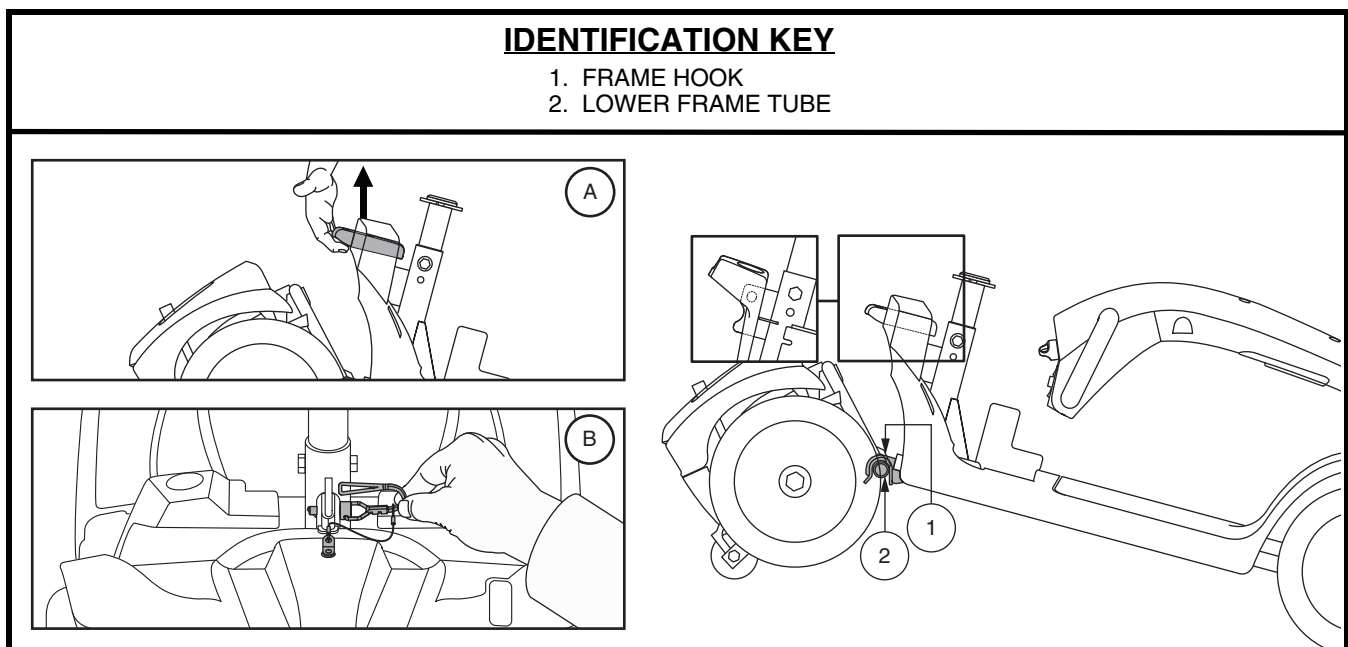

Figure 23. Frame Release Lever (Style A) and Frame Release Lockup Pin (Style B)
3. Remove the frame lockup pin (Model 104 only.) See figure 23.
1. Position the front and rear sections of your scooter as shown in figure 23.
2. Use the frame release lever (or the seat post for model 104) to lift the front section as you align the frame hooks of the front section with the lower frame tube of the rear section. See figure 23.